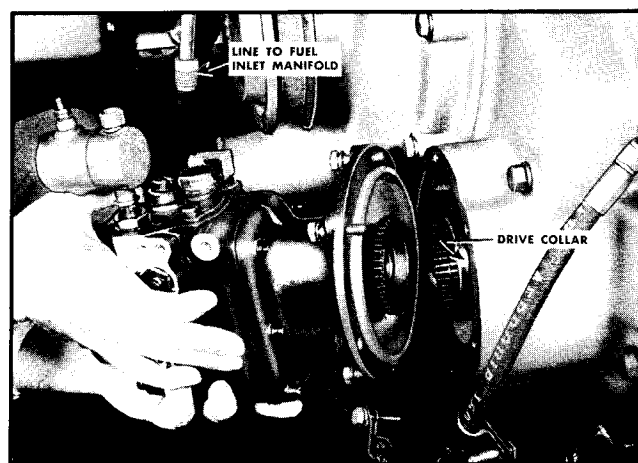

Fig. 4-26. Fuel pump assembly
2. Loosen the six capscrews from the front pump cover and slide the pump away from the gear case cover. Fig. 4-26.